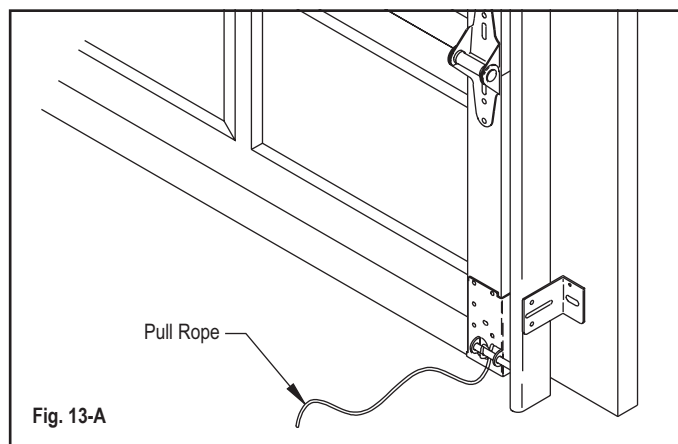

Fig. 13-A
- Install the pull rope by attaching to roller shaft in bottom bracket of door (Fig. 13-A).